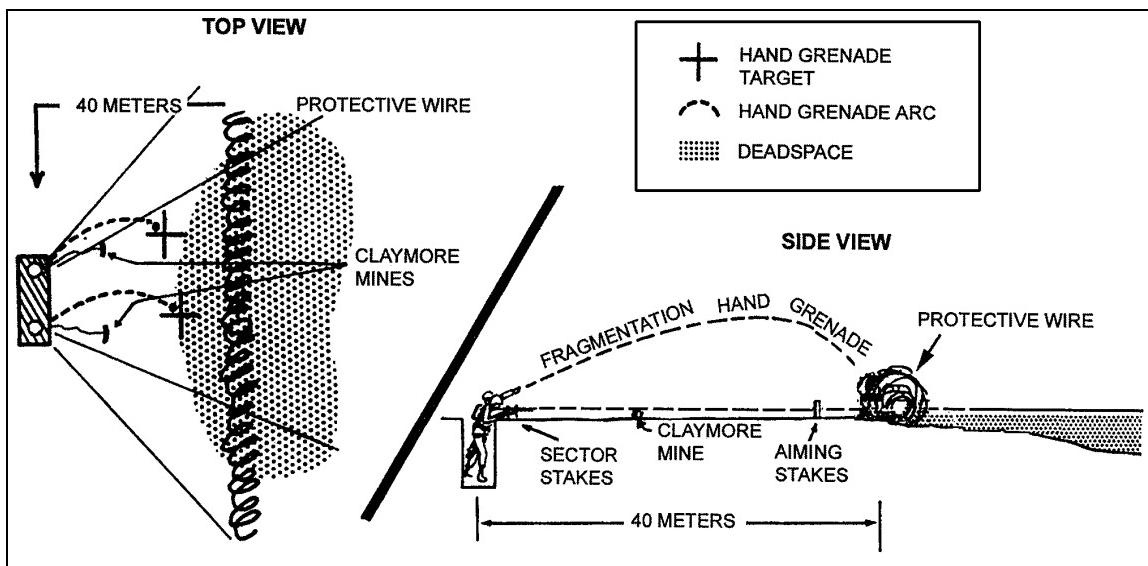

Figure 3-10. Defense from an individual fighting position.
a. **Defense From Individual Fighting Positions** (Figure 3-10). From individual fighting positions, fragmentation hand grenades are used primarily to cover close-in dead space approaches on the friendly side of the protective wire and in front of a squad's position. Soldiers should use these grenades in conjunction with ground flares positioned along the protective wire. Enemy soldiers who are stopped at the protective wire are engaged first with Claymore mines. If time permits during the preparation of the defensive position, soldiers should identify dead space in their sectors, especially dead space that may intersect the protective wire and move toward the friendly fighting positions. These potential avenues of approach through the protective wire should be marked with a reference to identify them as primary hand grenade targets. The following rules apply when employing fragmentation hand grenades from fighting positions:
- (1) Clear overhead obstructions that may interfere with the path of the thrown grenade. Do this at the same time direct-fire fields of fire are cleared.
- (2) Rehearse grenade employment; know where your primary target is located.
- (3) Keep 50 percent of your fragmentation grenades at the ready in your fighting position, leaving the remaining fragmentation grenades on your load-carrying equipment (LCE).
- (4) Rehearse actions needed if an enemy grenade lands in your fighting position.
- (5) Employ fragmentation hand grenades against enemy soldiers located in defilade positions as first priority. This lessens the danger to friendly soldiers and helps cover terrain not covered by direct-fire weapons. Use the rifle to kill enemy soldiers not in defilade positions.
- (6) Reconnoiter the alternate and supplementary positions and determine the priority for the fragmentation hand grenade target.
- (7) Redistribute hand grenades after each enemy engagement.